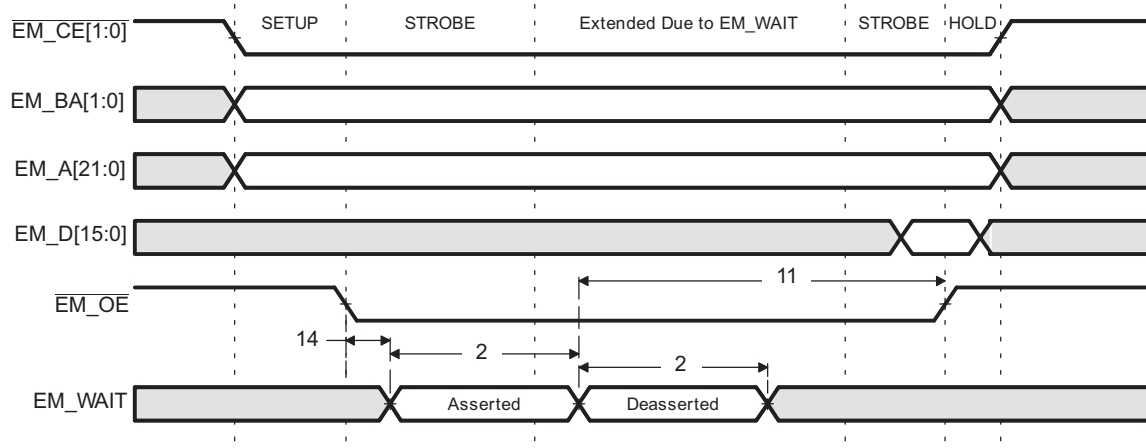
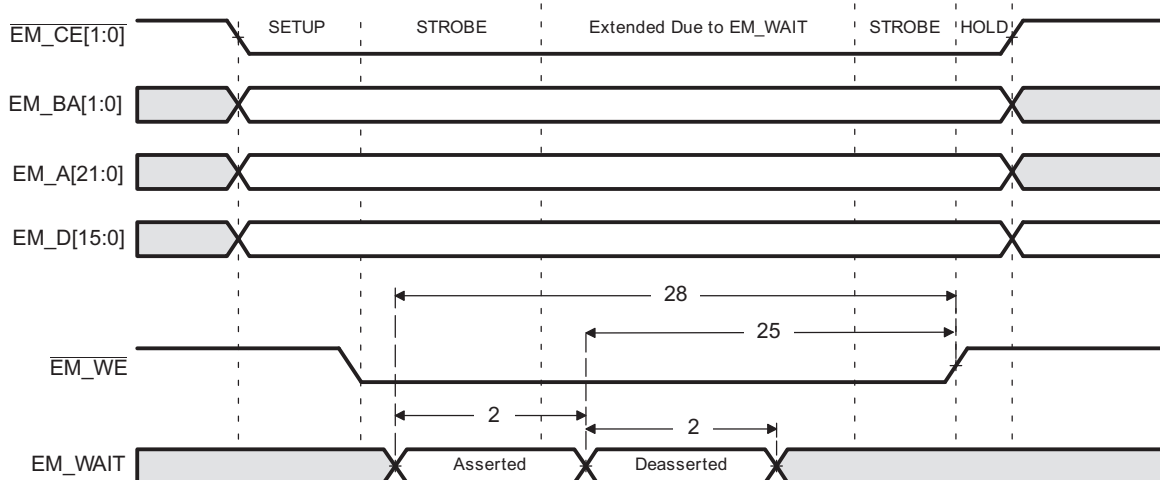

Figure 6-15. EM_WAIT Read Timing Requirements
Figure 6-16. EM_WAIT Write Timing Requirements
- (1) E=2*PLL1C SYSCLK4 period in ns. See Section 3.3 for more information.
(2) Setup before end of STROBE phase (if no extended wait states are inserted) by which EM_WAIT must be asserted to add extended wait states. Figure 6-15 and Figure 6-16 describe EMIF transactions that include extended wait states inserted during the STROBE phase. However, cycles inserted as part of this extended wait period should not be counted; the 4E requirement is to the start of where the HOLD phase would begin if there were no extended wait cycles.